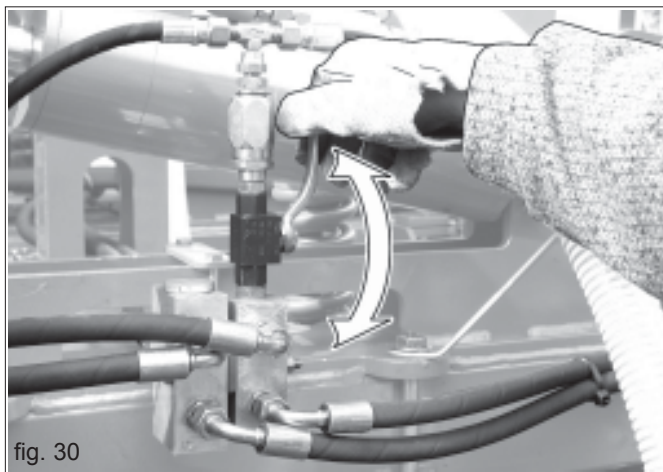

fig. 30
**IMPORTANT! On the trailed versions, the system is shared with that of the rear trolley, so they are actuated at the same time by the same tractor distributor. A valve at the back of the machine allows the harrow circuit to be opened and closed according to requirements (Fig. 30).**
When using the rear seed-covering harrow in the working position, if its circuit is switched off with the valve (Fig. 30), the planter must be raised fully from the ground during manoeuvres.
**With the harrow lowered and the circuit closed by the valve (Fig. 30), the planter must be raised fully from the ground during manoeuvres.**